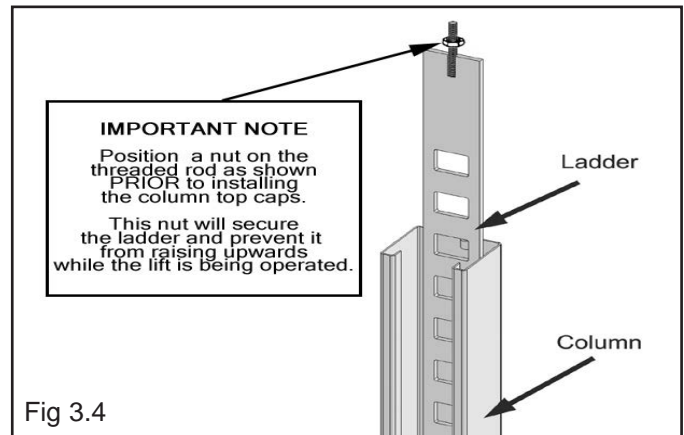

Fig 3.4
4. With the Columns standing and the cross tubes in position, install the Safety Ladders. Pass the Ladders through the Column openings and drop down through the Slide Block guide slots on the cross tube until the Ladders come to rest on the Base Plates. If bolting, **DO NOT BOLT** Columns down at this time. (See Fig. 3.4 - 3.5)